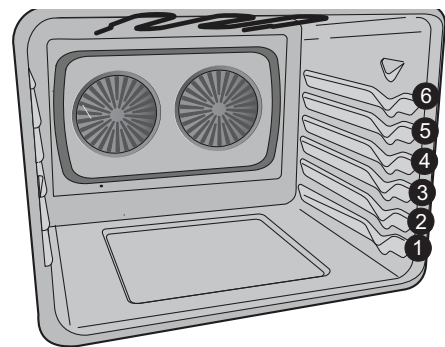

Figure 9: Rack position
- For best results when baking using two oven racks, place racks in positions 1 (flat) and 4 glide/5 flat (See Figure 9).